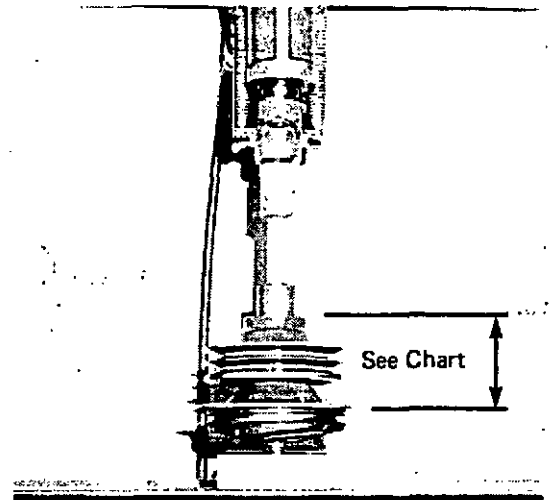

Figure 3. Assembly Measurements
H. Install pulley on impeller shaft (9) using an arbor press. Place assembly in arbor press so load is on impeller shaft (9) and not impeller (5).
IMPORTANT: There must be a measurement from the top of pulley and mating surface of housing (8). Refer to Figure 3.